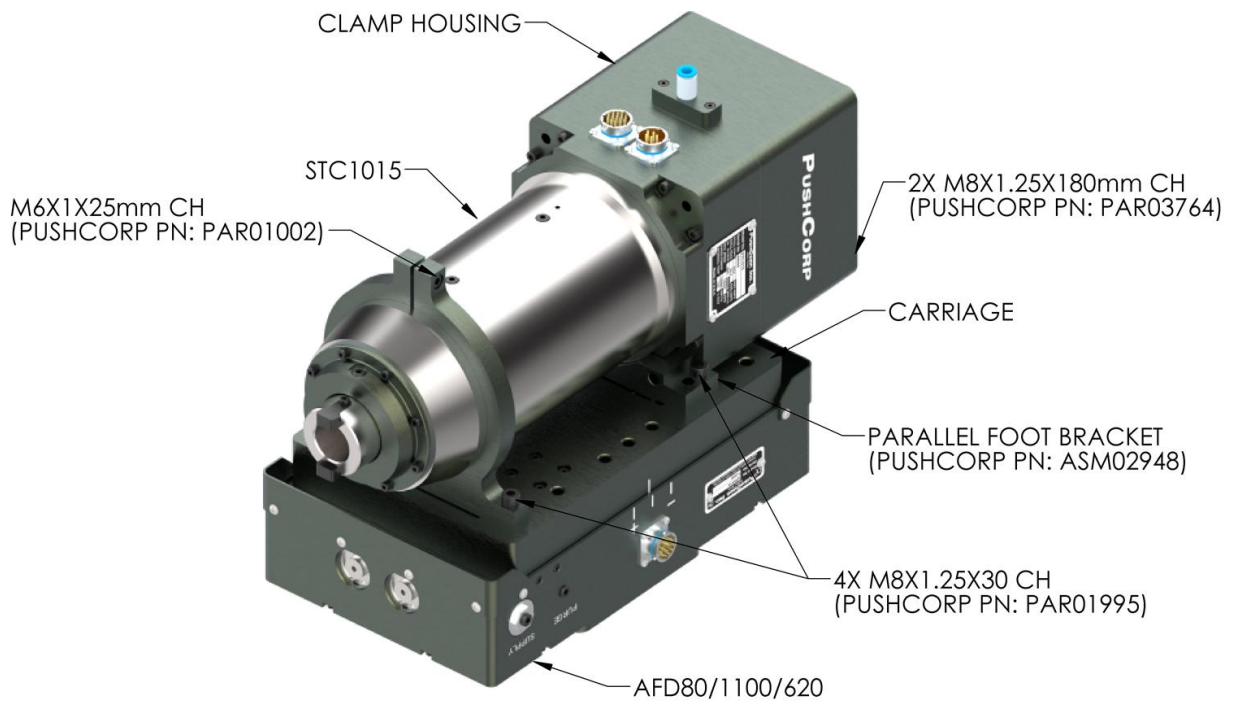

FIGURE 2: STC1015 PARALLEL AXIS CONFIGURATION
For the Parallel-Axis configuration, shown in Figure 2, the 1015 attaches to the AFD Carriage with two brackets and four (4), M8x1.25x25mm, Socket Head Cap Screws. The 1015 is positioned on the Carriage with the Foot Bracket while the Front Bracket is attached to the forward mounting holes. The Clamping Screw on the Front Bracket should be loose to allow sliding movement along the motor. Attach the Foot Bracket to the Clamping Housing using two (2), M8x1.25 Socket Head Cap Screws. When the desired position is achieved secure the brackets to the Carriage, and tighten the Clamping Screw. The M8x1.25, Socket Head Cap Screws, must be the proper length and tightened to the torque specified in Section 4.0.